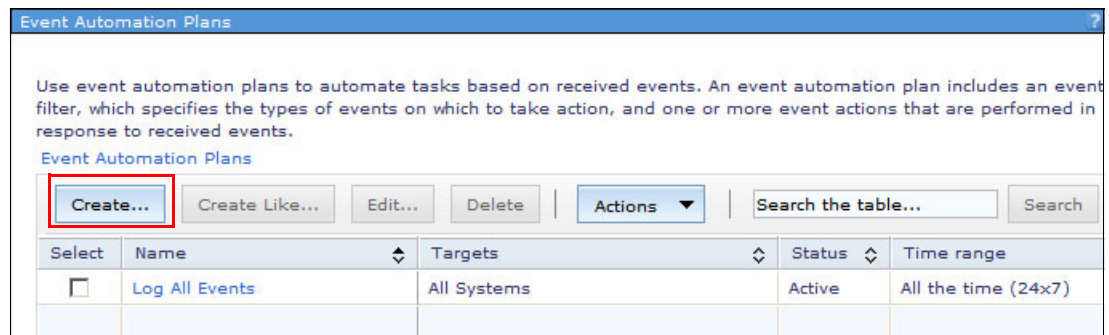

Figure 7-16 Event Automation Plans window
2. In the opened Event Automation Plans window (Figure 7-16), click **Create**.